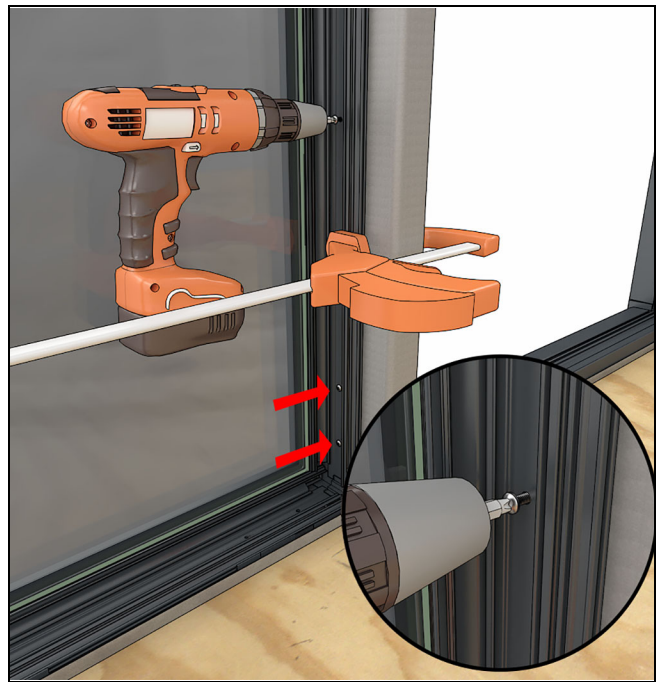

Figure 239
19. Fasten the second frame to the mull steel using the #8 x 1/2" trilobular screws included. See Figure 239.